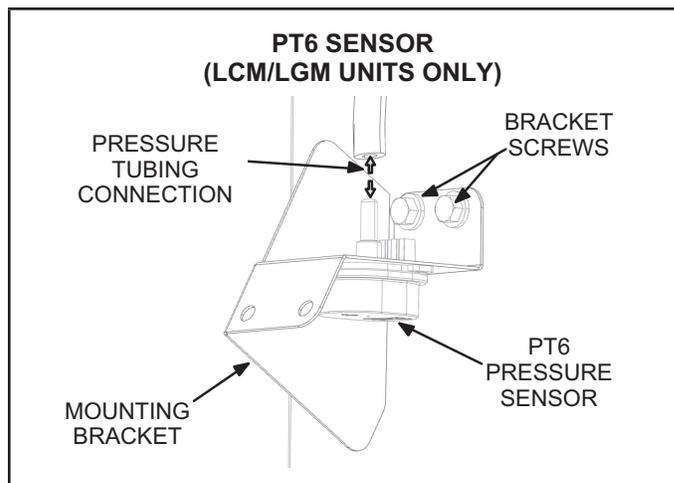

FIGURE 3
- 8 - *LCM/LGM Units Only* - Disconnect the pressure tubing from PT6 pressure sensor. See FIGURE 3. Remove two screws and remove sensor/bracket assembly (note the orientation) from existing blower housing. Install the sensor/bracket onto the replacement blower assembly. Reattach the tubing in the same manner they were removed.